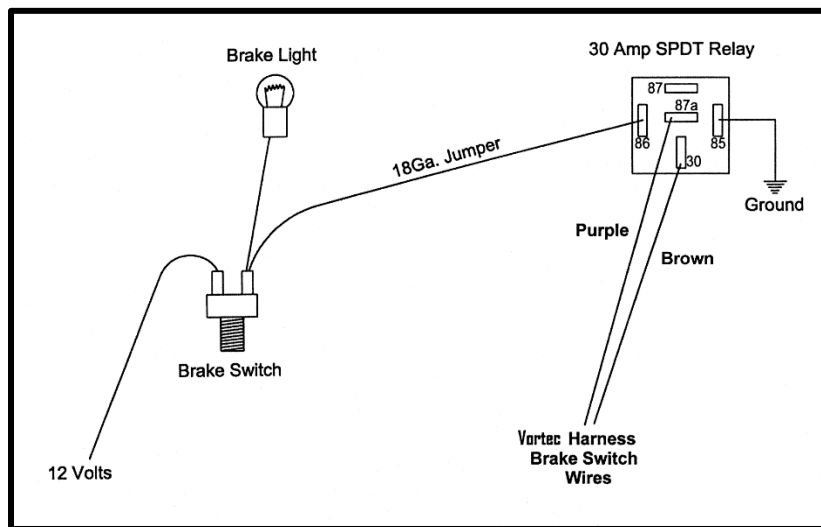

FIGURE 6.3 Brake Switch Relay
- F. If your vehicle has a pressure type brake switch, you may use a relay as shown in **Figure 6.3**. The relay must be a **SPDT Relay** and wired correctly or it could result in a dangerous situation with the vehicle. The torque **converter may not unlock**.